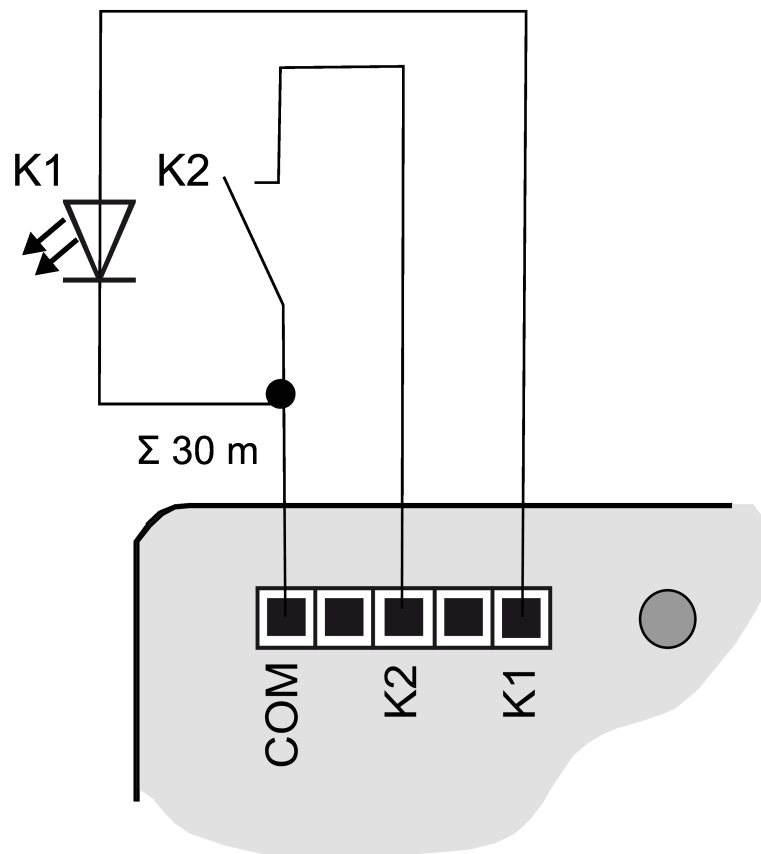
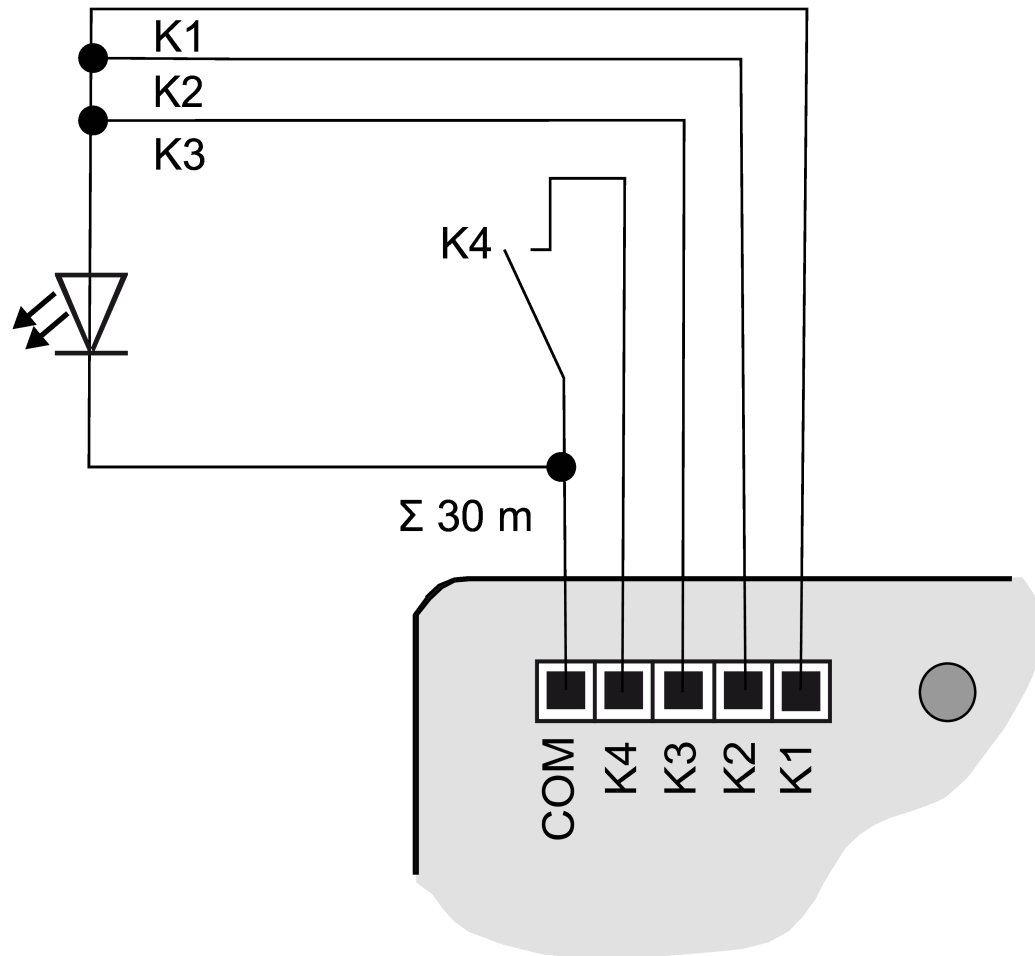

Figure 6: Connection example: push-button interface 2-gang
Figure 9: Connection example with outputs switched in parallel
- Connect push-buttons, switches, contacts, LED or NTC to enclosed connecting cables (4) according to the connection examples; (see figure 6) to (see figure 9). The connection examples show the use with inputs and outputs.
- i** To increase the output current, outputs can also be switched parallel to each other with the same parameterization; in the example here, (see figure 9) K1-K3 are switched in parallel.